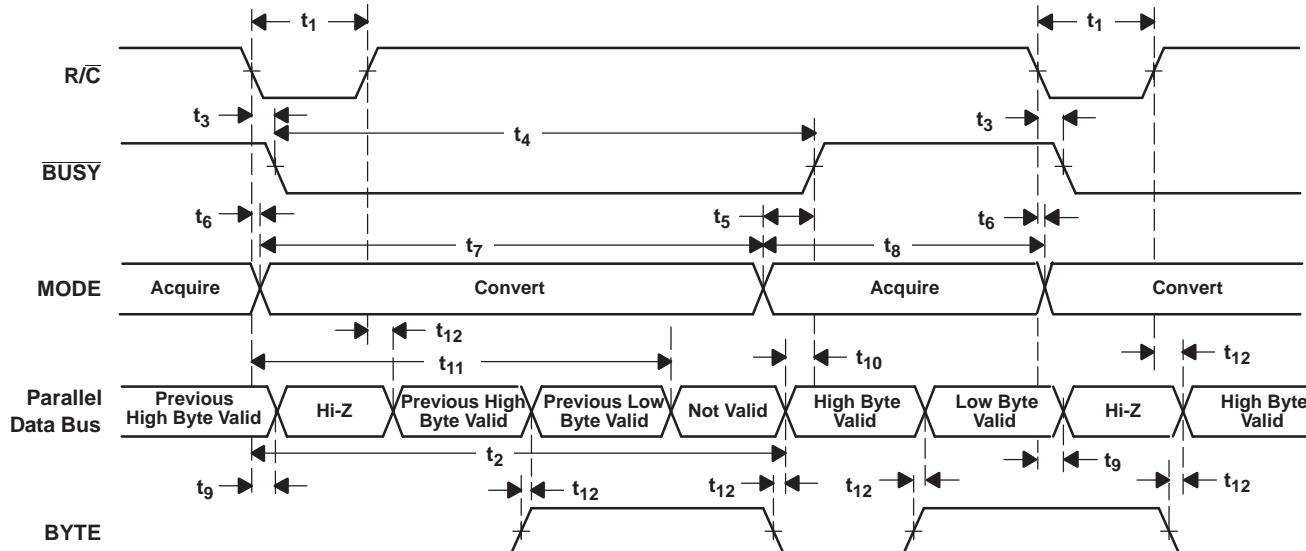
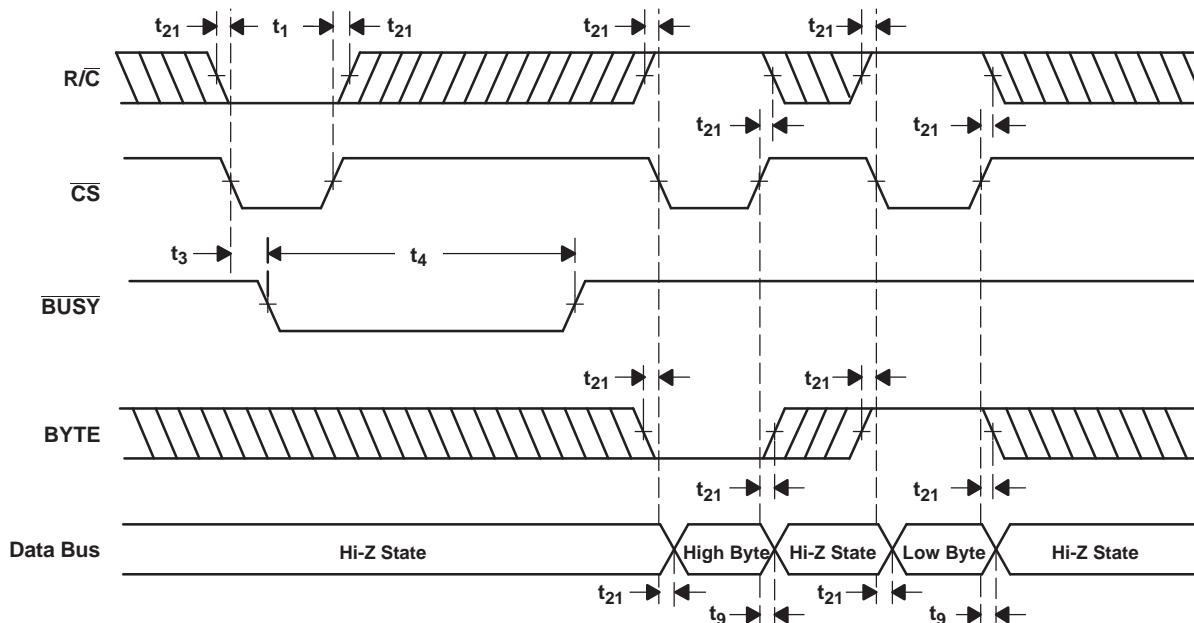

Figure 33. Conversion Timing With Parallel Output ( $\overline{CS}$  and  $DATACLK$  Tied Low,  $EXT/INT$  Tied High)
Figure 34.  $\overline{CS}$  to Control Conversion and Read Timing With Parallel Outputs
The ADS8506 begins tracking the input signal at the end of the conversion. Allowing 25  $\mu$ s between convert commands assures accurate acquisition of a new signal. Refer to Table 2 and Table 3 for a summary of  $\overline{CS}$ ,  $\overline{R/C}$ , and  $\overline{BUSY}$  states, and Figure 33, Figure 34, Figure 35, Figure 36, Figure 37, Figure 38, and Figure 39 for timing diagrams.
(1) See Figure 33 and Figure 34 for constraints on data valid from conversion  $N-1$ .
After conversion  $N$  is completed and the output registers have been updated, **BUSY** (pin 24) goes high. Valid data from conversion  $N$  is available on D7-D0 (pin 9-13 and 15-17). **BUSY** going high can be used to latch the data. Refer to Table 5 and Figure 33 and Figure 34 for timing specifications.
After conversion  $N$  has been initiated, valid data from conversion  $N-1$  can be read and is valid up to 12  $\mu$ s after the start of conversion  $N$ . Do not attempt to read data beyond 12  $\mu$ s after the start of conversion  $N$  until **BUSY** (pin 24) goes high; this may result in reading invalid data. Refer to Table 5 and Figure 33 and Figure 34 for timing constraints.